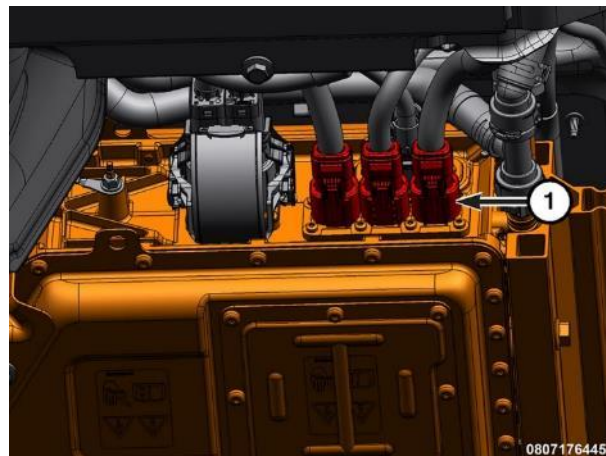

Figure 42 – HV Battery - Primary
- 24. Disconnect the low voltage wire harness connectors and cover (Figure 42).
66. Connect the low voltage wire harness connectors to the primary battery (Figure 42).